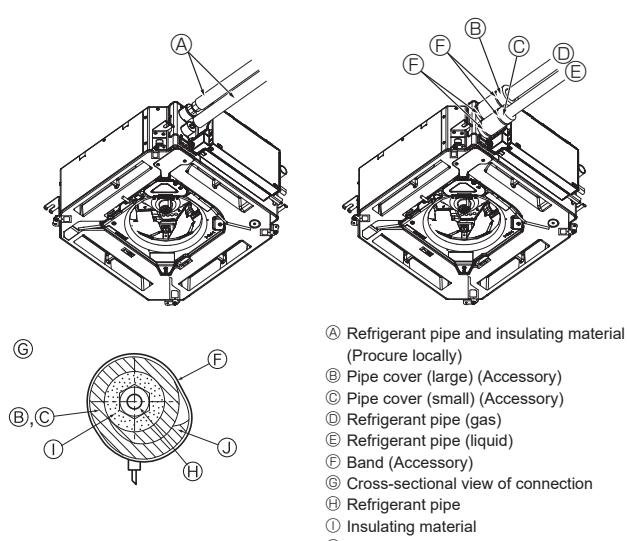

Fig. 3-3
⑨ Apply refrigerating machine oil over the entire flare seat surface.
3.3. Indoor unit (Fig. 3-3)